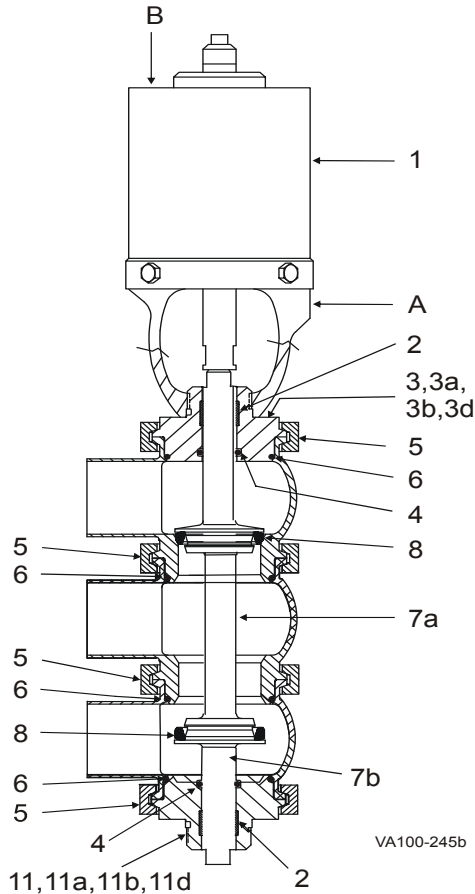

Figure 25: W65/W85 Divert Valve
1. Remove the lower body clamp (Figure 25, item 5) and the lower body.
2. Remove the body o-ring (item 6); replace as needed.
3. If necessary, remove the lower bearing carrier (item 11) from the lower body.
4. Remove the body o-ring (item 6) and stem o-ring (item 4) from the bearing carrier; replace as needed.
5. Inspect and replace the PTFE bearing (item 2) as needed.
6. Using 5/8-inch wrench flats on the stem, unscrew and remove the lower valve stem (Figure 25, item 7b).
8. Replace the lower seat ring (Figure 25, item 8) as needed. See "Seat Replacement" on page 37.
9. Remove the middle body clamp (item 5) and the middle body.
10. Remove the middle body o-ring (item 6); replace as needed.
12. Remove the upper body clamp (item 5) and the upper body from the adapter (item 3).
13. Using 5/8-inch wrench flats on the stem, unscrew and remove the upper valve stem (item 7a).
14. Replace the seat ring (item 8) as needed. See "Seat Replacement" on page 37.
15. Unscrew the adapter (item 3) from the yoke.
16. Remove the body o-ring (item 6) and stem o-ring (item 4) from the adapter; replace as needed.
17. Inspect and replace the PTFE bearing (item 2) as needed.
7. Using 5/8-inch wrench flats on the stem, unscrew and remove the lower valve stem (Figure 25, item 7b).
8. Replace the o-ring (Figure 25, item 9) in the counter bore of the lower stem as needed.
9. Replace the lower seat ring (Figure 25, item 8) as needed. See "Seat Replacement" on page 37.
13. Remove the middle body clamp (item 5) and the middle body.
14. Remove the middle body o-ring (item 6); replace as needed.
15. Remove the upper body clamp (item 5) and the upper body from the adapter (item 3).
16. Using 5/8-inch wrench flats on the stem, unscrew and remove the upper valve stem (item 7a).
17. Replace the seat ring (item 8) as needed. See "Seat Replacement" on page 37.
18. Unscrew the adapter (item 3) from the yoke.
19. Remove the body o-ring (item 6) and stem o-ring (item 4) from the adapter; replace as needed.
1. Screw the adapter (Figure 25, item 3) onto the yoke.
2. Install the upper body o-ring (item 6) onto the adapter.
3. Using 5/8-inch torque wrench flats on the stem, install the upper valve stem (item 7a). Torque to 380 in/lbs.
5. Assemble the upper body to the adapter; secure it with the upper body clamp (item 5).
6. Install the middle body o-ring (item 6) onto the upper body.